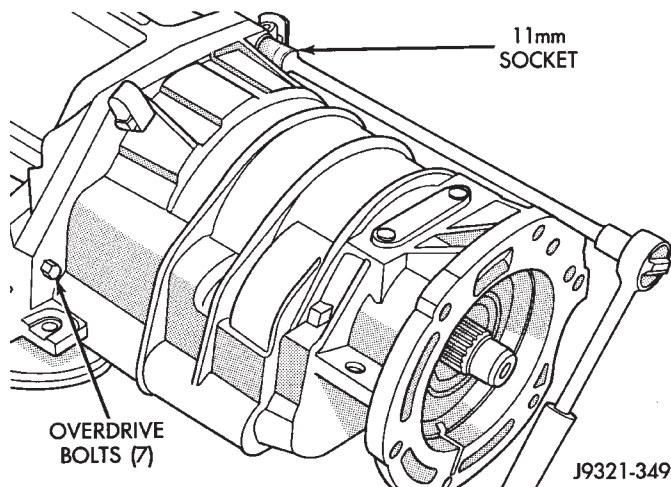

Fig. 2 Removing/Installing Overdrive Unit Attaching Bolts
- (2) Place transmission in upright position (Fig. 2).
- (3) Remove bolts attaching overdrive unit to transmission case (Fig. 2). An 11 mm socket is required. Note position of wire harness clips for installation reference.